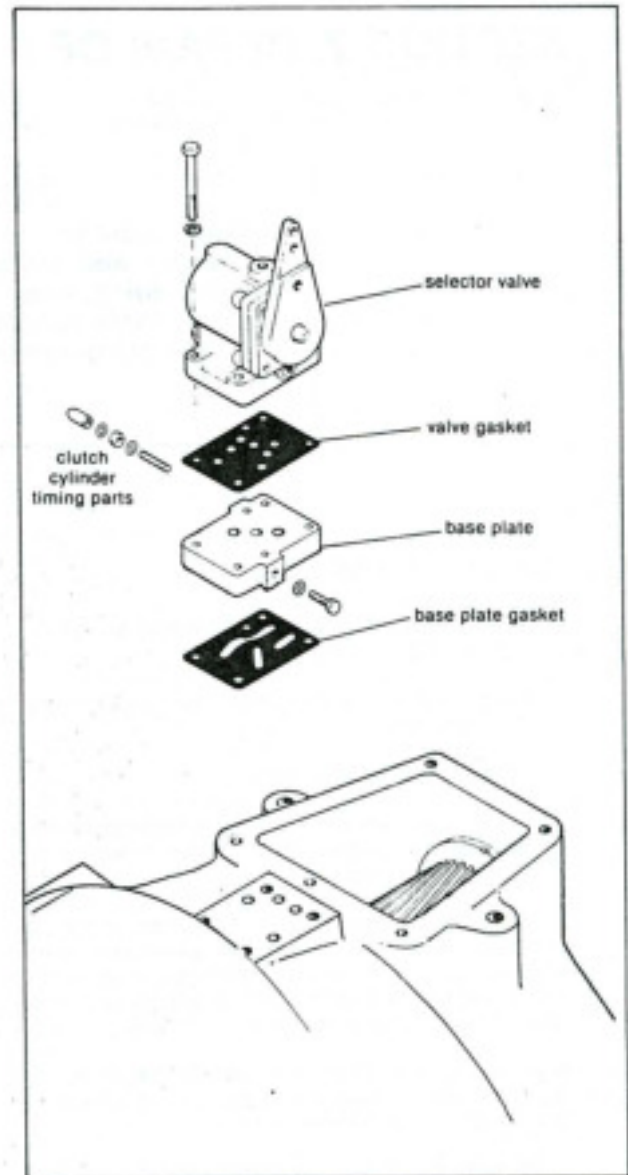

Fig. 19. Exploded View: Selector Valve and Related Parts.
8. Check for correct assembly by moving lever back and forth. Selector valve is now ready to be installed on main housing. See fig.19.